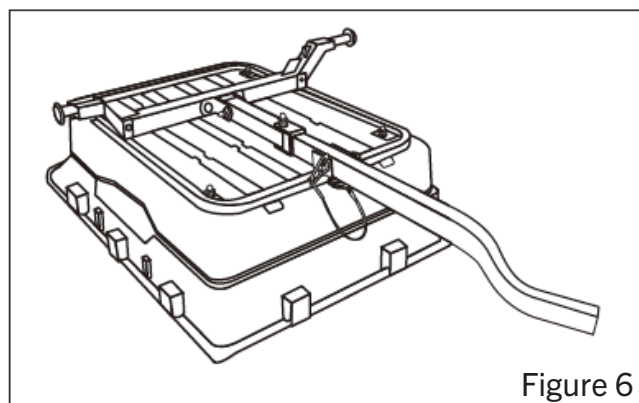

Figure 6
8. Place the trailer tongue assembly into the locking bracket and secure it with the hinge pin to keep it fixed during assembly. FIGURE 6